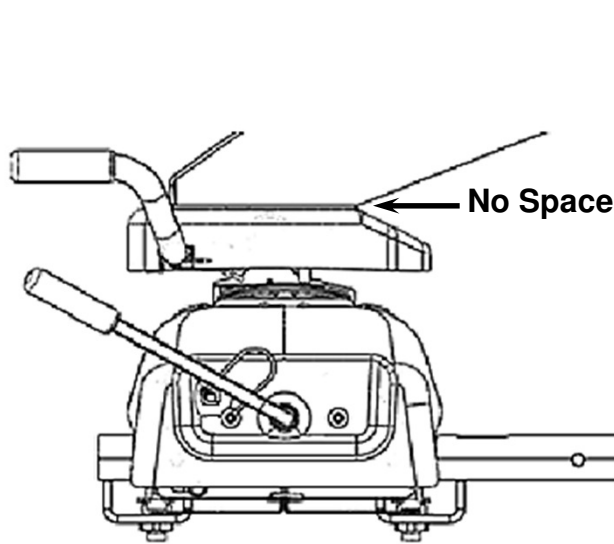
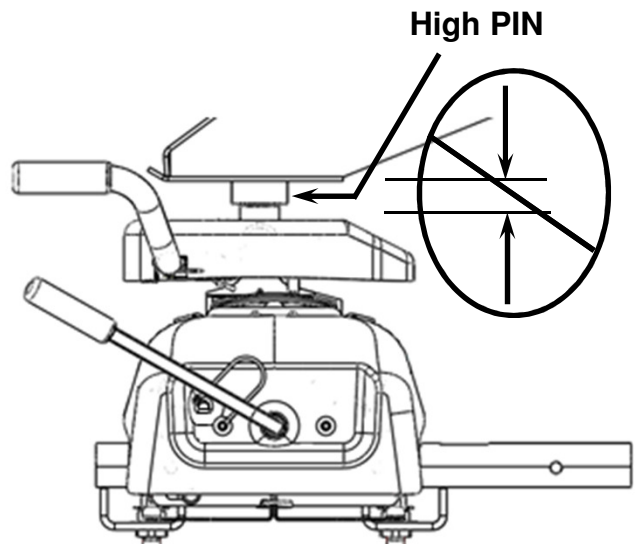

Figure 23
Figure 24
6. With all trailer wheels still firmly blocked, landing gear still resting on firm ground and supporting trailer weight, and truck stationary and in park with emergency brake on: visually check that bottom of pin box is resting on top of the hitch. **THERE SHOULD BE NO SPACE BETWEEN THESE SURFACES** (See Figure 23). If space exists, (See Figure 24) trailer has not been properly hitched. **DO NOT TOW!** Instead, repeat above steps until trailer is properly hitched. **DO NOT PLACE PART OF BODY UNDER TRAILER TO PERFORM THIS INSPECTION!**